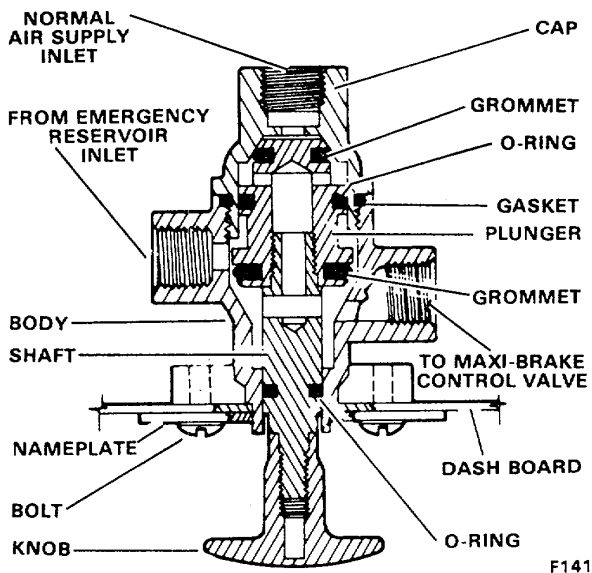

Figure 12C-7. Emergency Release Valve (36Z362)
When the knob is pulled out, the emergency air inlet is blocked, and the service air inlet is connected to the Maxibrake control valve outlet. In this case, the air at the service air inlet flows through the drilled passages in the plunger to the outlet port (see Figure 12C-7).
OVERHAUL. Overhaul of this valve is limited to the replacement of two grommets, two O-rings and a gasket. To replace these parts, proceed as follows (see Figure 12C-7):
4. Install the grommets and O-rings on the plunger as shown in Figure 12C-7.